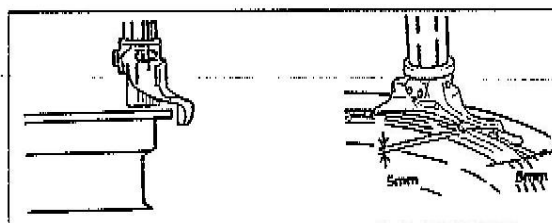

Fig.11
5. Move the vertical arm B in the working position, make the mount/demount head (C) close to the bead, the distance between the mounting head and the rim should be 4-5mm.(Fig. 11), then lock the arm by press the locking button.